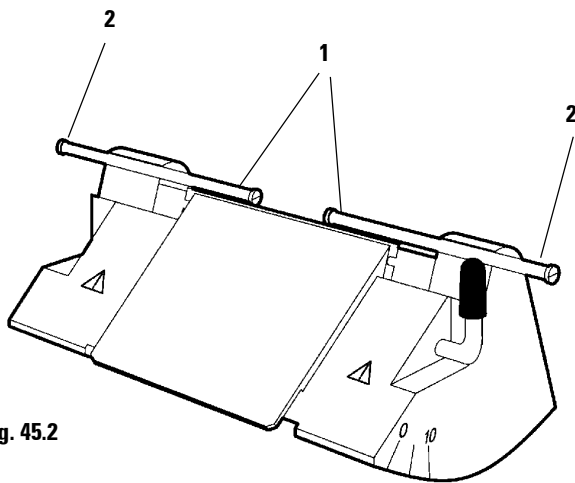

Fig. 45.2
- Turn the knurled wheels (6) in opposite directions to the rear to position the knife edge parallel and at the level of the locating edge (Fig. 45.2) of the rear clamping jaws.
- To clamp the knife (4), tighten the two clamping screws (2) uniformly by turning them clockwise.